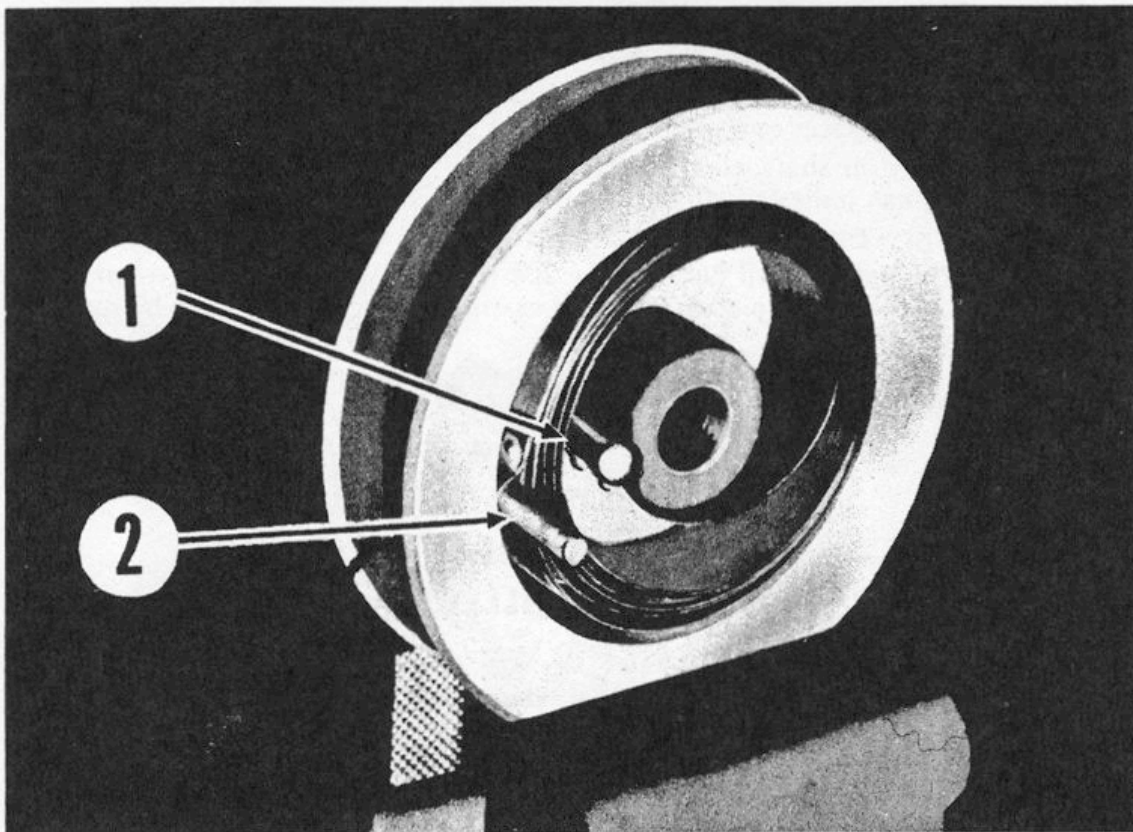

Figure 19. Starting Spring and Pulley Ready For Installation
- c. Insert the long clevis pin into the spring loop so that the end containing cotter pin hole faces out; then force end of spring into pulley. (See figure 19.)